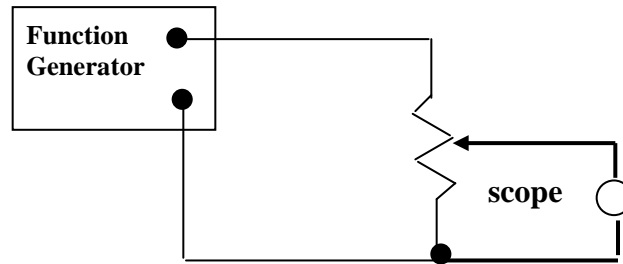

Figure 1: AC level control.
1. *Scope Coupling:* For the remainder of the experiment use the special probes to connect inputs to the DPO. As noted above, these inputs can be AC or DC coupled. Suppose you started with a sine wave that is shifted vertically in voltage (i.e. using the DC offset feature in the function generator) so that it is no longer centered on zero. The AC coupling removes the shift, so that the signal looks like a sine wave centered on zero. Add some DC offset to the function generator output to create a shifted sine wave. Now switch your DPO between AC and DC coupling. Observe the effects on the scope. Figure 1 shows a sine wave with such a DC offset.
2. *AC level control:* Use a potentiometer to attenuate an AC signal as shown in Figure 1. This is the essence of an audio volume control. Use two inputs: channel 1 for the input from the pulser and channel two for the attenuated output. Paste a copy of the display with output attenuated by a factor of two into your notebook.